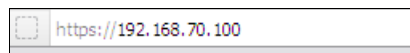

Figure 4-1 Log in to the Chassis Management Module with the default IP address
2. Open a web browser on the client computer, and direct it to the CMM IP address. For the first connection to the CMM, use the default IP address of the CMM, as shown in Figure 4-1.